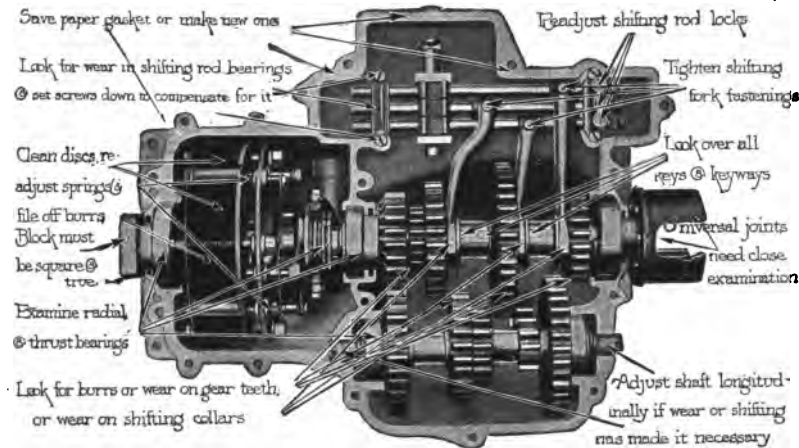

Fig. 42. Transmission Troubles Illustrated
**Transmission.** Passing along to the transmission, Fig. 42 shows a plan of gearbox in which the disk clutch is also housed, the various possibilities for trouble or suggestions for its avoidance